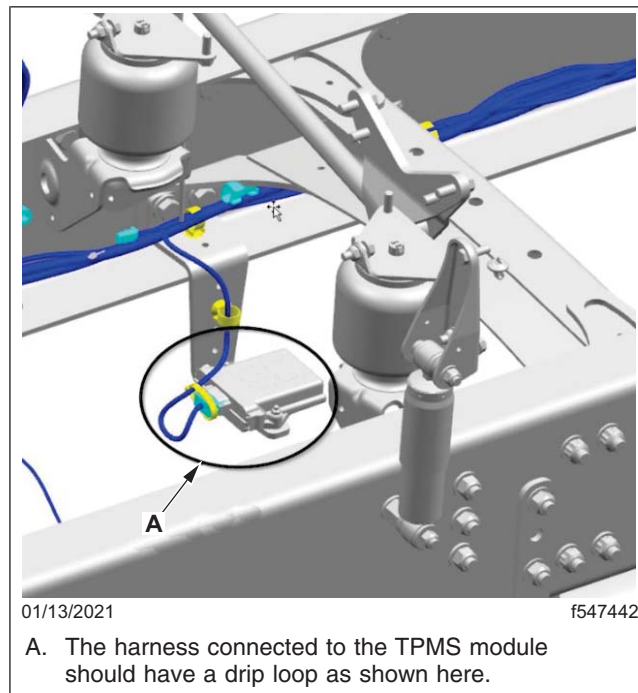

Fig. 5, Securing the Harness
7. Connect the wiring harness to the main connector on the receiver. Make sure that the harness (wire) connected to the TPMS has a drip loop and is securely fastened to the connector with the tie strap as shown in Fig. 5.